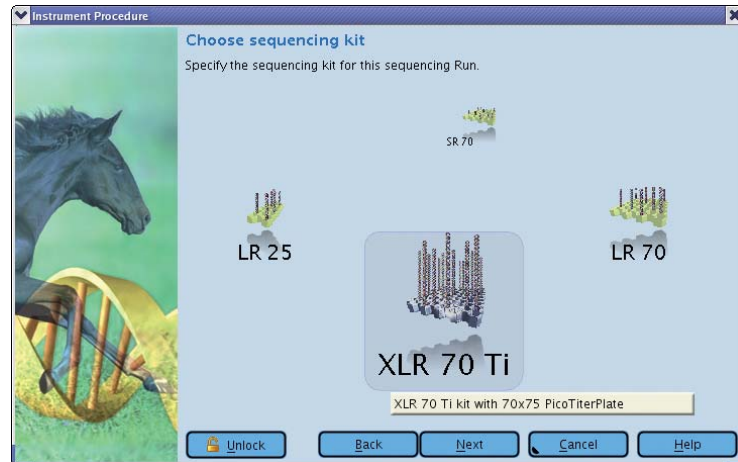

Figure 22: The Run Wizard's fourth window: Choose sequencing kit
► This opens the Run Wizard's fourth window: Choose sequencing kit (Figure 22).